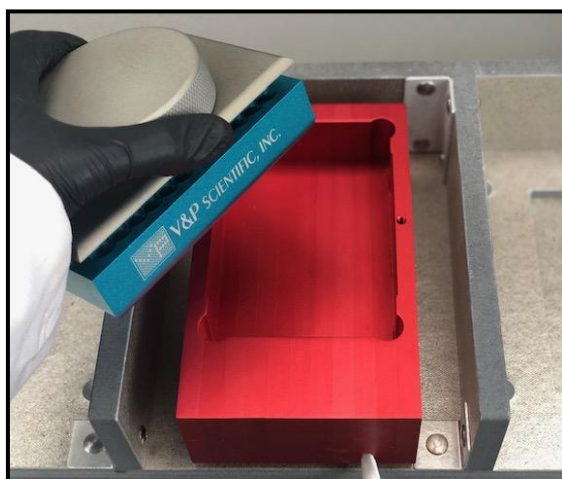

Figure 11. Assembled reaction block
3. Once Reaction Block is properly assembled it is ready for use with heating or at ambient temperature on a Tumble Stirring System. If heating will be performed using a VP 741 series Heating Block (**Figure 11 & 12**) you may use the Puck to lift the Reaction Block in and out of the deep well chamber.